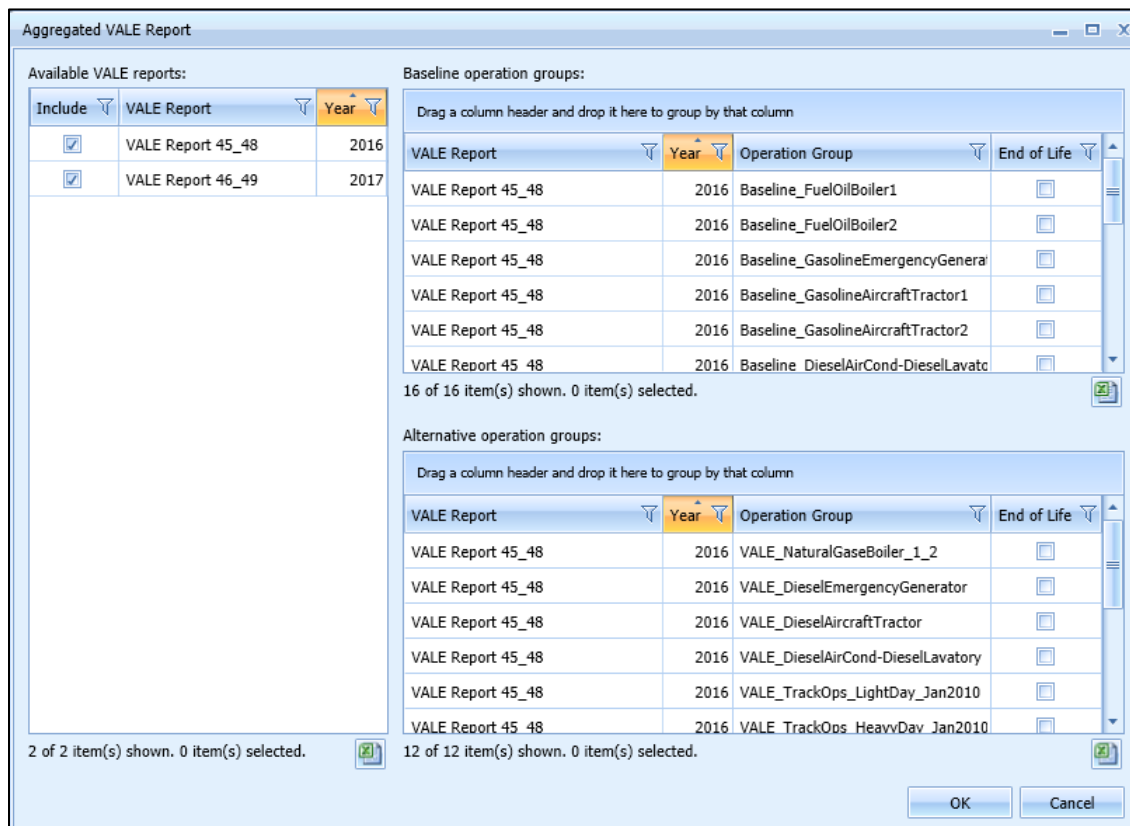

Figure 5-65 Sample Aggregated VALE Report Dialog
2. From the *View Reports* ribbon group, click *Aggregated VALE Report* to open the *Aggregated VALE Report* dialog will (Figure 5-65).